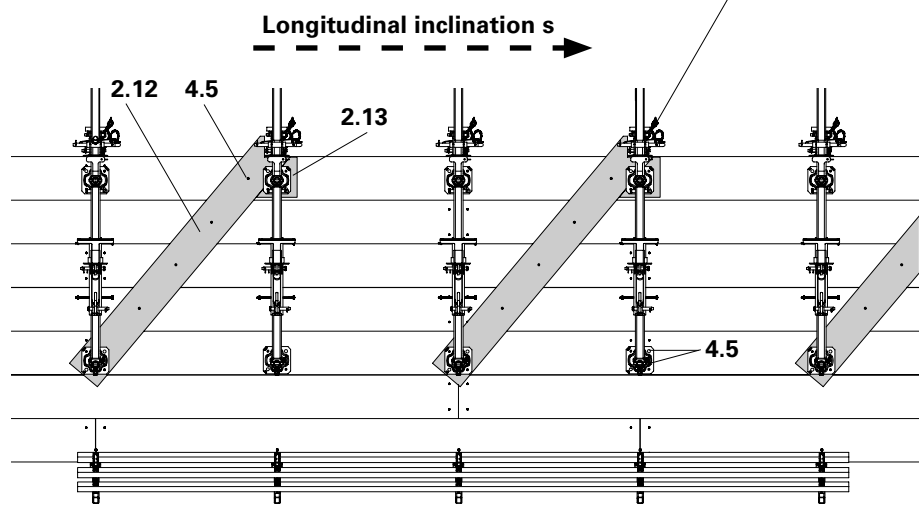

Fig. A8.01
5. Fix Adjustable Base Plates with two Torx 6 x 80 (4.5) respectively. (Fig. A8.01)